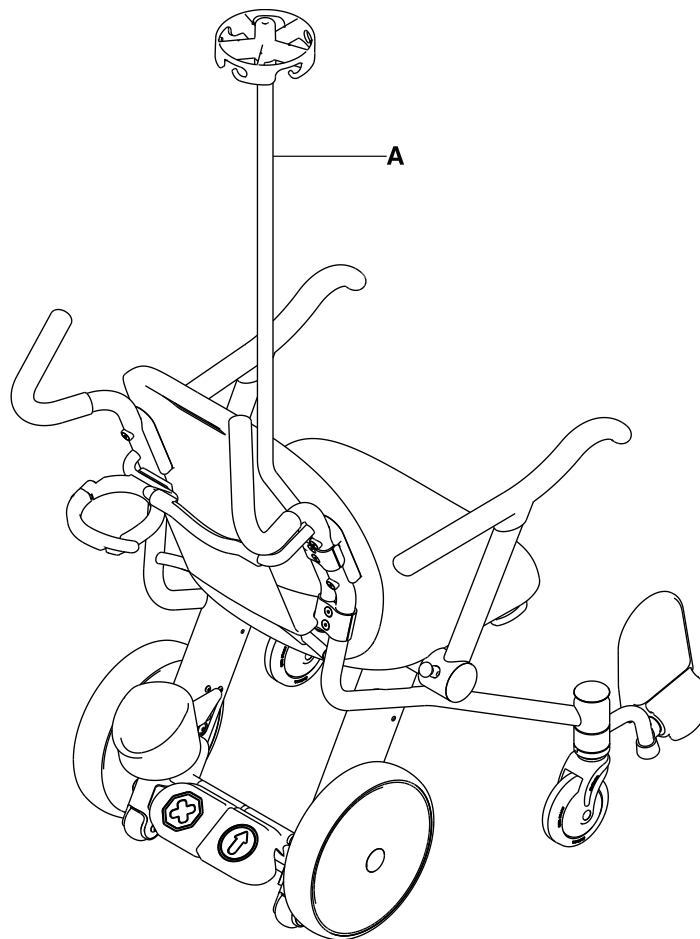

Figure 1-15: IV pole
1. Pull on the optional IV pole (A) to make sure that it is secure (Figure 1-15 on page 1-27).